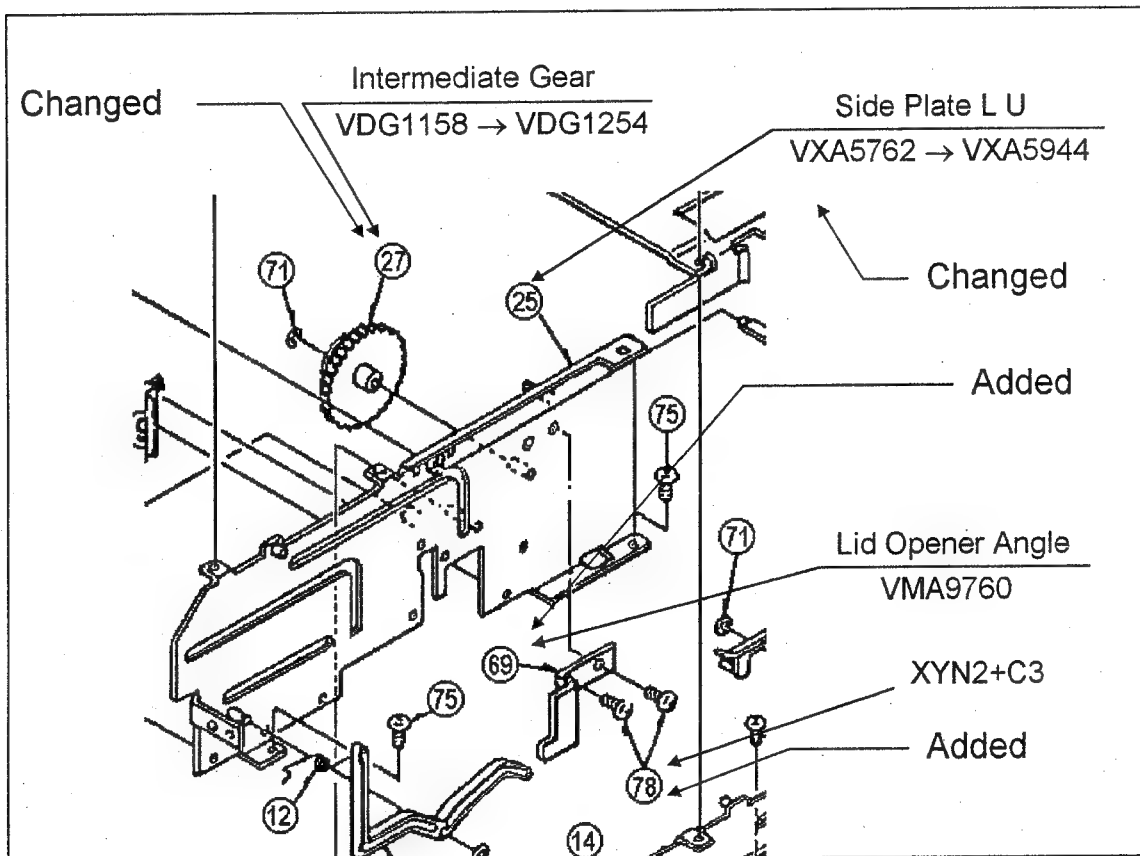

Fig. 2
3). The Lid Opener Angle (VMA9760) is added to the Side Plate L Unit as shown in figure 2.